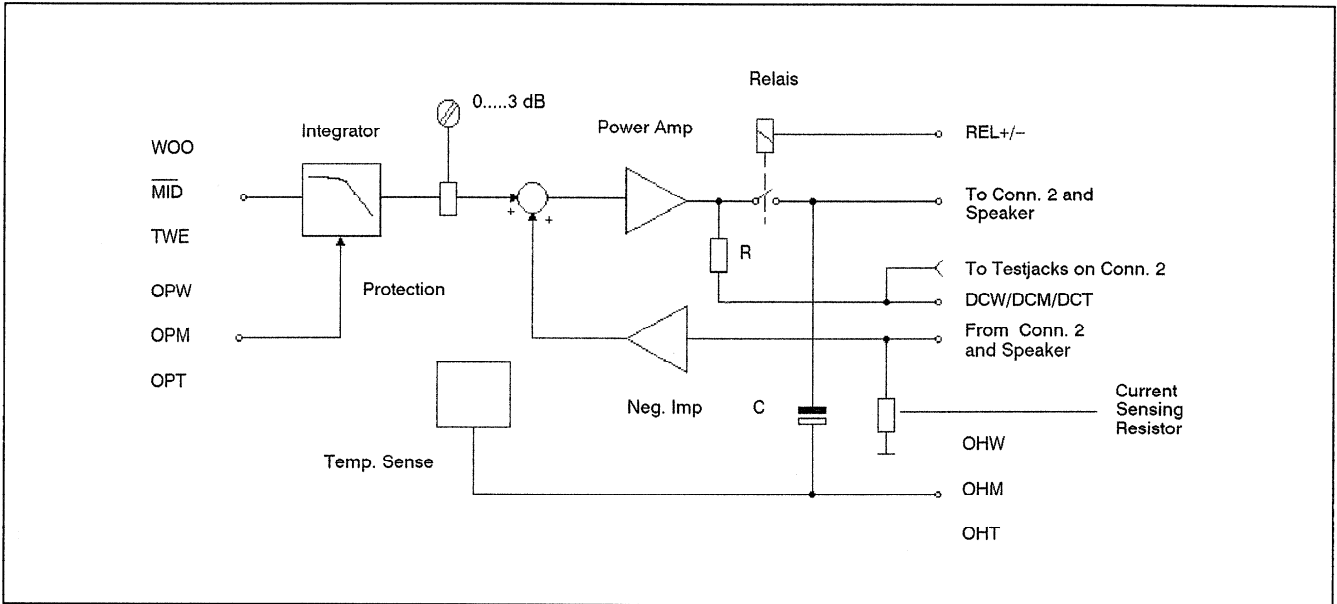

Fig. 3.4
- The overtemperature and overvoltage protection are coupled via capacitor C for space reasons (OHW / OHM / OHT). Fig. 3.4.
- "R" protects the amplifier against short circuits on the test jacks and also supplies the DC voltage monitoring signal (DCW / DCM / DCT). Fig. 3.4.